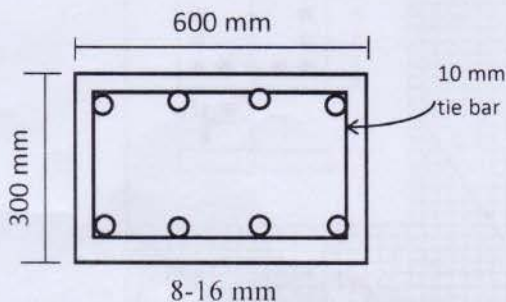

Figure 6. Sections of column
- a. As design checker, evaluate and justify whether the reinforced concrete column as shown in **Figure 6** could sustain 2500 kN axial load and 250 kN.m bending moment at balanced failure condition in shorter direction of the column. If not, propose optimal solution by increasing number or size of bars to resist the load and moment. Assume required information for analysis of the column. [15]